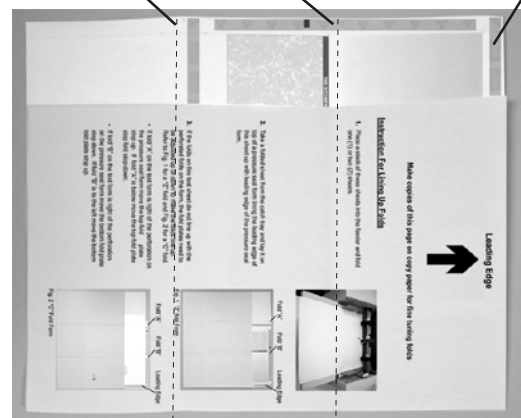

Fig. 16 "Z" fold Form
3. If the folds on this test sheet do not line up with the perforated folds on the form, the fold plates need to be adjusted up or down to make the folds line up. Refer to Fig. 16 for a "Z" fold and Fig. 17 for a "C" fold.